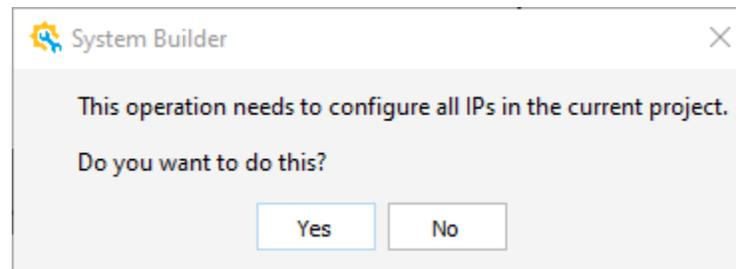

Figure 2.140. System Builder Dialog
3. Click **OK**. The System Builder dialog (Figure 2.140) pops up showing a message of configuring all IPs.